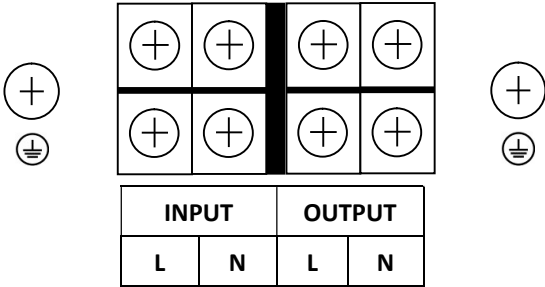

Figure 8 - INPUT/OUTPUT terminals for Single Phase Stabilizer
- 1.1. Remove the metallic panel that covers the **Input/Output terminals**. The terminals are shown in figure 8. All the cables have to reach the terminals from the rear side using the proper holes in the stabilizer rear side.
- 1.2. Connect the **AC INPUT line (LINE, NEUTRAL and GROUND)**, paying attention to the right polarity, in accordance with figure 8, as explained below: